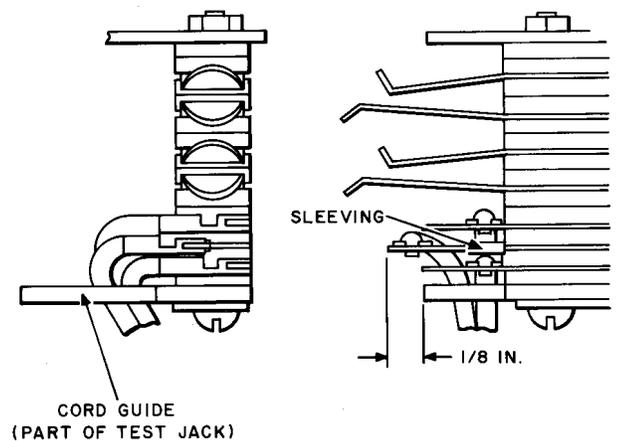

Fig. 17—Method of Dressing and Connecting Wiper Cords
- (1) To replace this assembly, tag and disconnect the leads connected to the test jack terminals at the rear of the test jack. Unsolder and tag the wiper cords from the front of the jack assembly.
- (2) Loosen the test jack assembly mounting screw and nut, using the 3-inch C screwdriver and the 417A or 418A wrench. Mount the new assembly securely in position. The screw nearest the front of the switch which fastens the test jack assembly to the lower coverplate is only required on switches with a P-251147 commutator.
- (3) Connect leads to the rear of the assembly. Dress and connect the wiper cords as shown in Fig. 17. If the wiper cords are M1G cords (M1G cords do not have cord tips), replace them with M1R cords as described in Section 030-705-804.